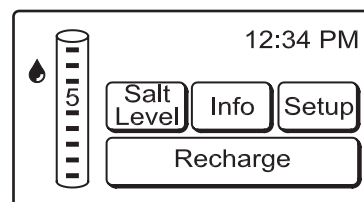

FIG. 42
1. Press the SETUP button on the softener status screen (See Figure 42).